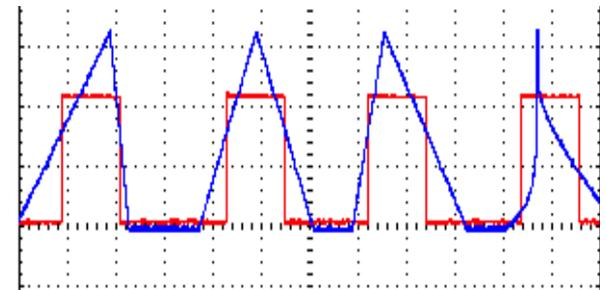

Figure 12a: Half-Rise Gate HR goes high 1/2 through time of Rise (regardless of curve/skew/shape).
- Half-Rise outputs a gate that goes high when 50% of the envelope's rise time has elapsed. It goes low when 50% of the fall time has elapsed. It is high during a sustain segment, and stays low when the envelope is not running. System Mode selects whether it outputs gates or triggers. See *Figure 12a*.